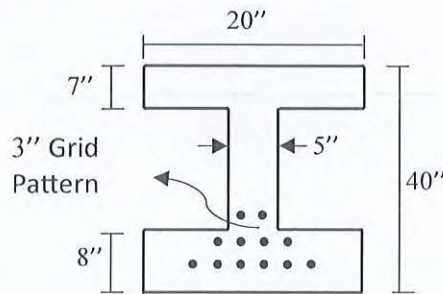

Fig.1
1. Determine the ultimate resisting moment for the given I-shaped beam section in **Fig.1** following the ACI Code. The beam is prestressed with a prestressing steel area of 4 in^2 with 150 ksi effective steel stress. Material properties are: $f_{pu} = 270 \text{ ksi}$; $f'_c = 7000 \text{ psi}$.